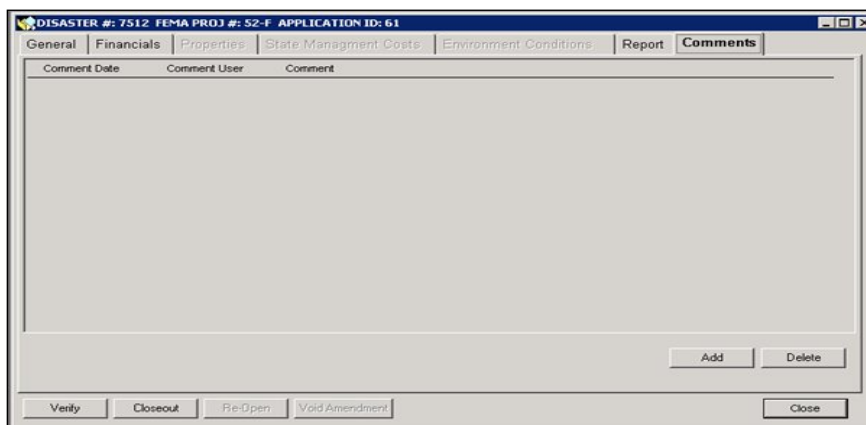

Figure 12-12: Mitigation >Projects >Closeout >Comments Tab
- Click the **Comments** tab (Figure 12-12).